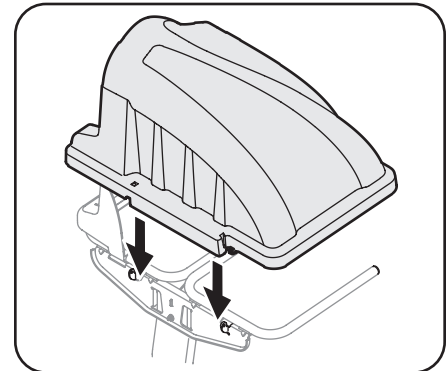

Figure 4-5
3. Install the grass catcher cover onto the bag support assembly, as shown in Figure 4-5. The grass catcher cover goes inside of the two mounting tabs on the bag support assembly.